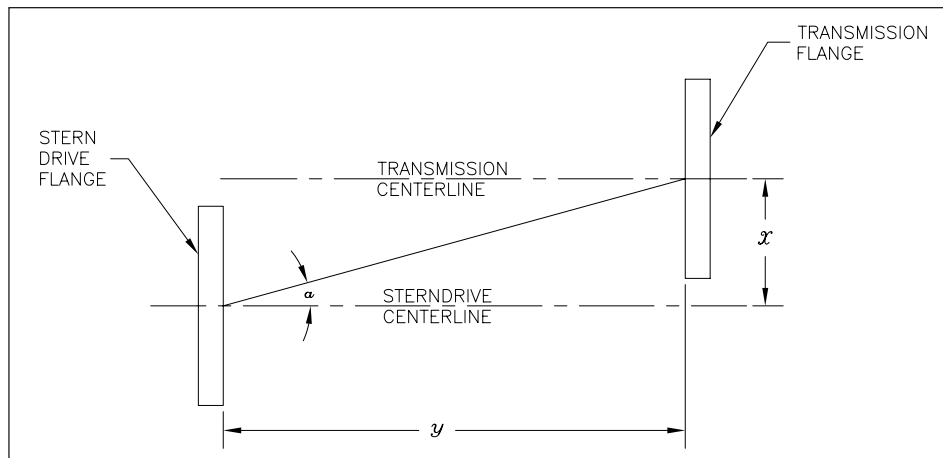

FIGURE 6D
- 3) To determine vertical offset (see Figure 6D)